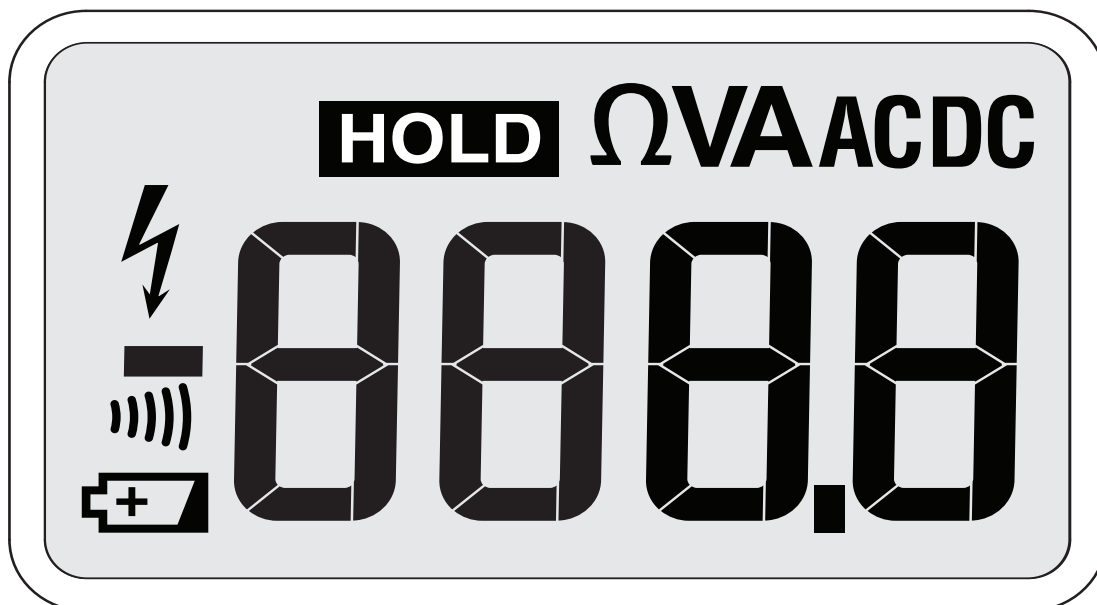

Figure 3. Display Segments
3. All display segments are shown. See Figure 3.